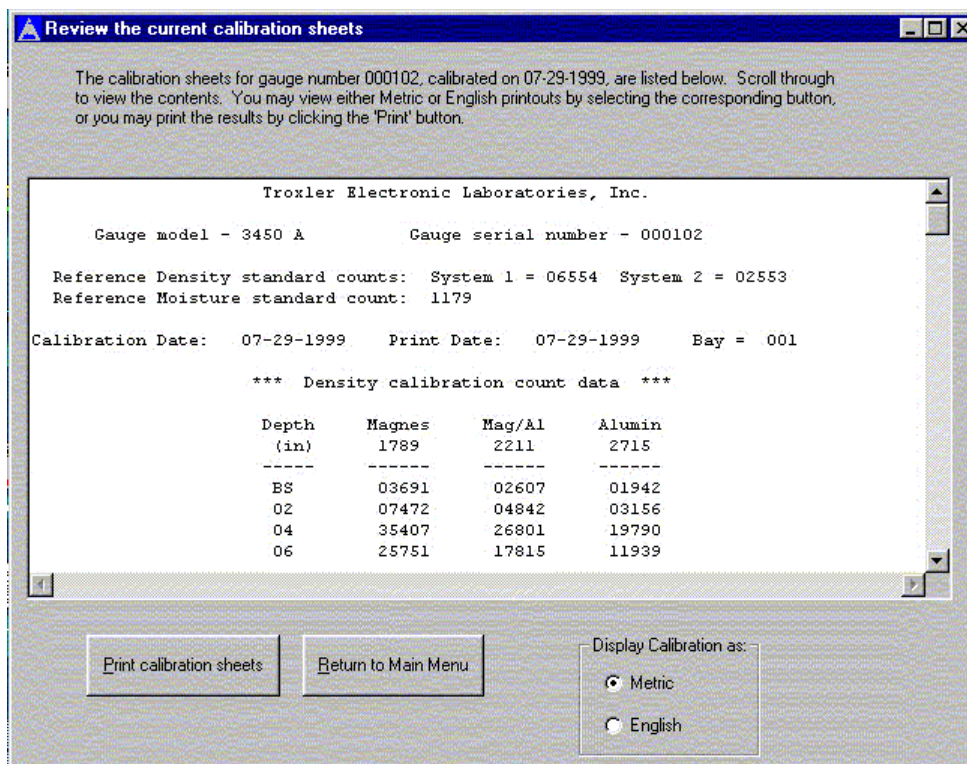

Figure 3–14. Review the Current Calibration Sheets Display
25. When the **<Proceed>** button is clicked, the software formulates the calibration sheets and displays them for review as shown in Figure 3–14. The entire text of the calibration sheets, in formatted form, is displayed in the text box shown on this screen. The user can scroll up and down this text box to view the calibration sheet in its entirety. This sheet can be displayed in Metric or Imperial (English) units simply by clicking the appropriate option button in the lower right-hand portion of the screen.